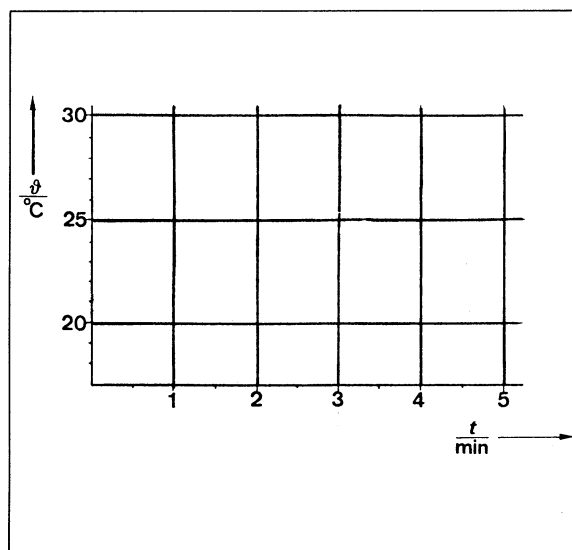

Fig. 2 Increases in temperature as a function of time (when using an immersion heater)
10. Copy the values from table 1 into the diagram in fig. 2.